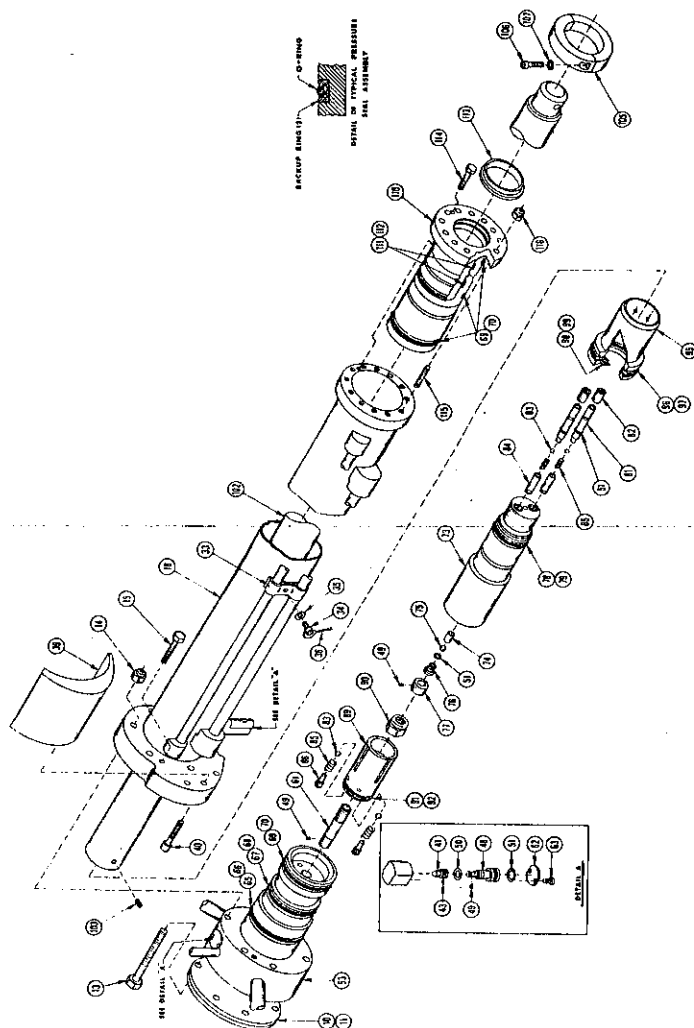

FIG 1-15
- Step 17. Remove all springs, balls, valve seats as shown in Figure 1-15 from the piston, Pc. 73.
Step 1. Use Figure 1-15 and install in the reverse order of removal except for the following:
- (g) Reinstall caution plates item 62 over vent plug assembly 47.
Step 3. When the problem is located in one of the below areas, refer to Figure 1-15 and the below outline: